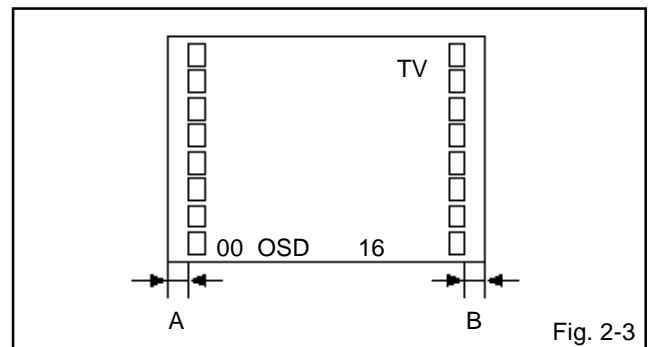

Fig. 2-3
2. Press the VOL. UP/DOWN button on the remote control until the difference of A and B becomes minimum and up 2 steps. (**Refer to Fig. 2-3**)